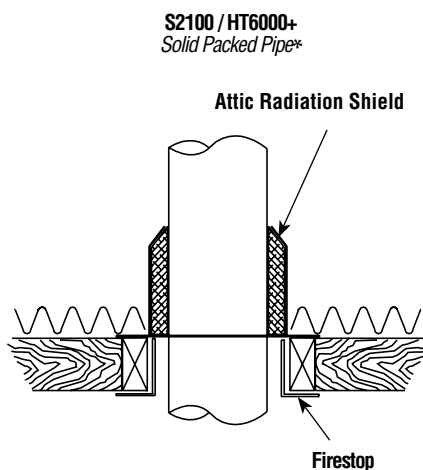

Figure 28a
2. From below, install a firestop in each ceiling/floor separation through which the chimney will pass. At the attic level, install an attic radiation shield from above (**Figures 28a and 28b**).
3. Use another elbow to turn the chimney vertically. Secure the elbow, using three (3) 1/2" (12 mm) screws (provided with the elbow).
5. From below, install a firestop (See **Figure 28a**).